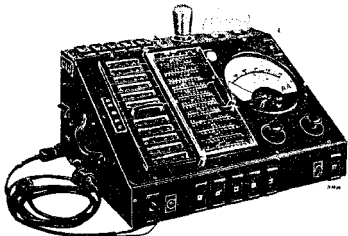

Fig. 4.
2. An output meter similar to that which is fitted to the Philips Universal Measuring Board, fig. 4 or the special adaptation box, GM.2295, which can be fitted between the receiver to the trimmed and a moving coil instrument.
Fault finding will be considerably facilitated by the use of efficient testing apparatus. Attention is drawn to the Philips Universal Measuring Test-board (Fig. 4), which enables both A.C. and D.C. voltages and currents, capacities and resistances to be measured over a large number of ranges. The meter can also be used as an output meter when trimming, etc. Furthermore, particulars are given of the "point to point" method of testing a receiver, and it will be found that these particulars will considerably assist in locating faults quickly and accurately. The testing equipment operates from A.C. mains supplies, and full particulars and prices can be obtained from the Service Department.